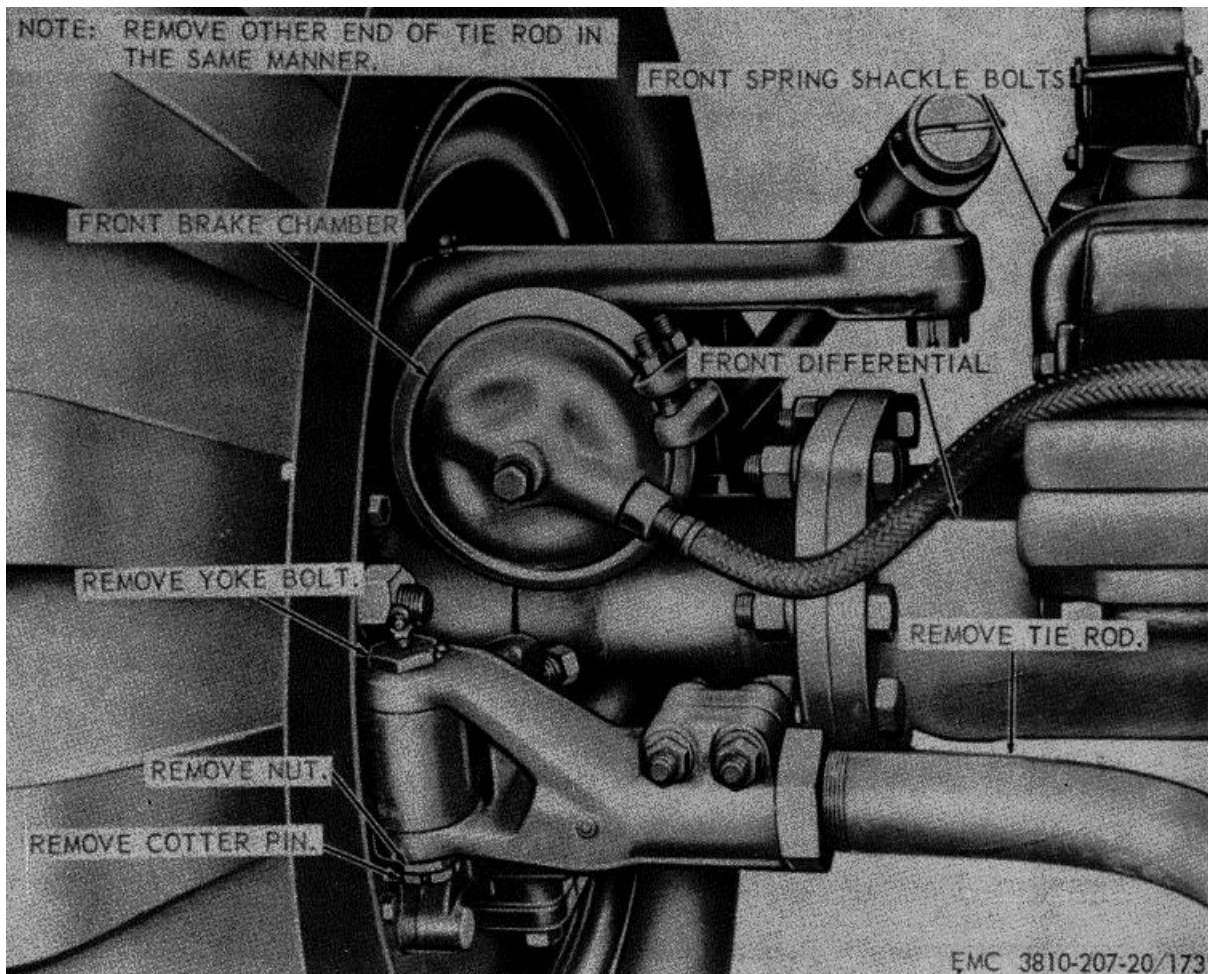

Figure 173. Steering tie rod assembly, removal and installation.
- a. *Removal.* Remove the tie rod as instructed, on figure 173.
- (1) Clean all parts with an approved cleaning solvent.
- (2) Inspect the tie rod for breaks, bends, excessive wear, and other damage. Replace defective tie rod.
- c. *Installation.* Install the tie rod as illustrated on figure 173.